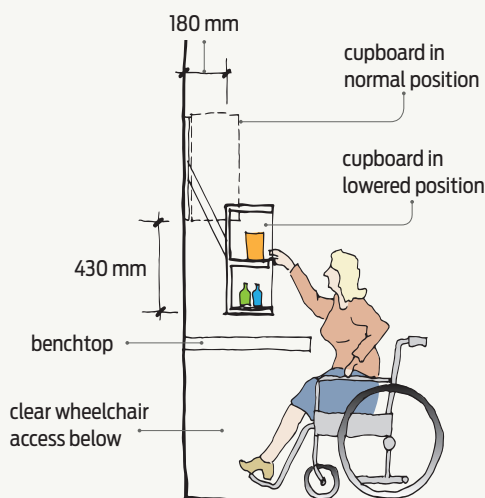

Figure 25 Adjustable-height wall cupboards.
- Electric lifts for wall-mounted cupboards that lower cupboards to a height where they can be accessed by a person in a wheelchair. These can be fitted to cupboards 500–700 mm high. One motor lift will raise and lower a cupboard unit up to 1200 mm wide and weighing approximately 100 kg. A typical range of movement is 430 mm lowering extension and 180 mm outwards extension (see Figure 25).